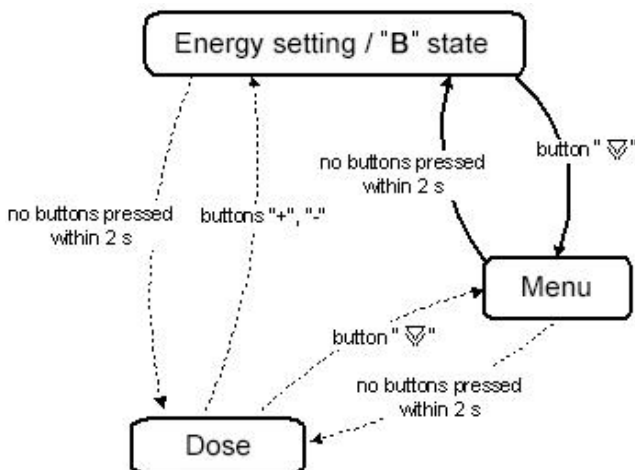

Fig.18
6.1.2 A chart of the device's basic states is illustrated in the Fig.18 (dotted lines mean that the **Dose** is on).